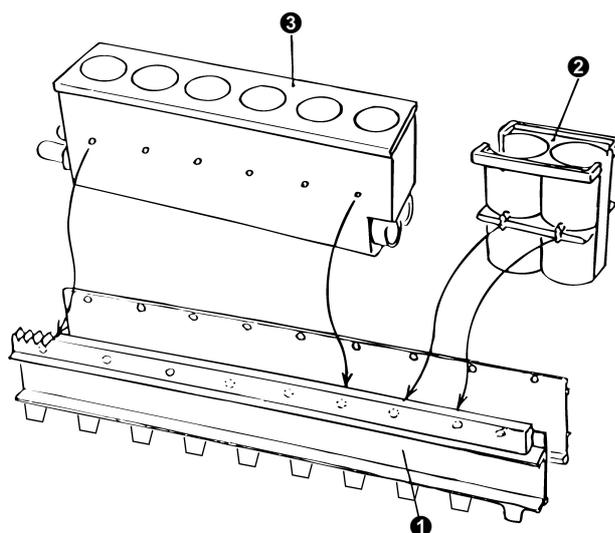

Figure 2-22
To load the vial racks, spread the rack guide slightly apart and insert both ③ 1.5 ml vial rack and ② 4 ml vial rack, so that the side pegs fit into the corresponding holes in each side of ① rack (as shown in Figure 2-22).